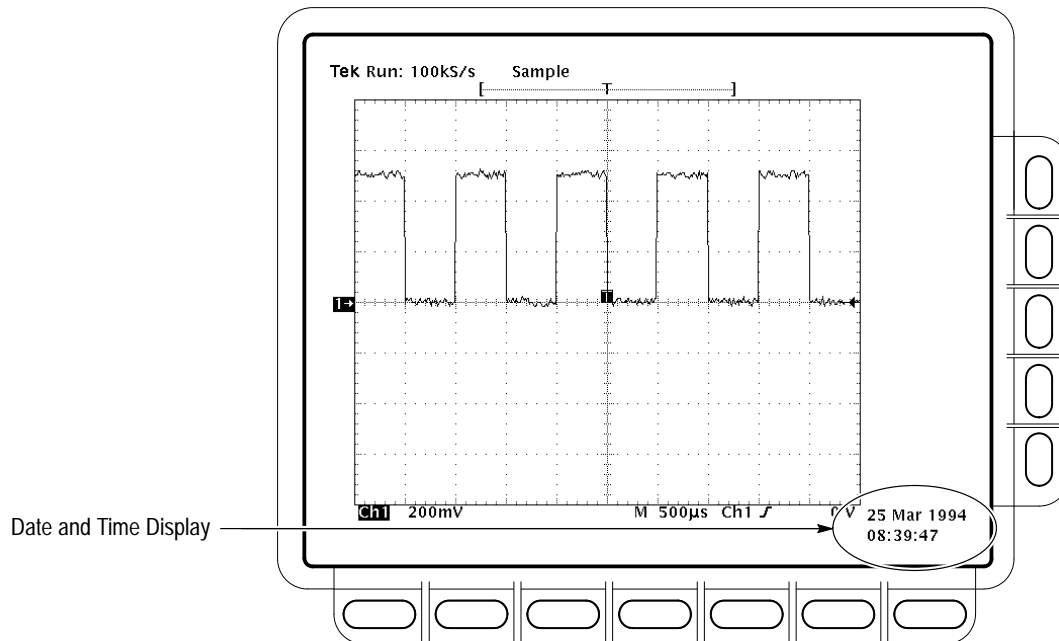

Figure 3-68: Date and Time Display
3. Press **Clear Menu** to remove the menu from the display so the date and time can be displayed. (See Figure 3-68.) (The date and time are removed from the display when menus are displayed.)